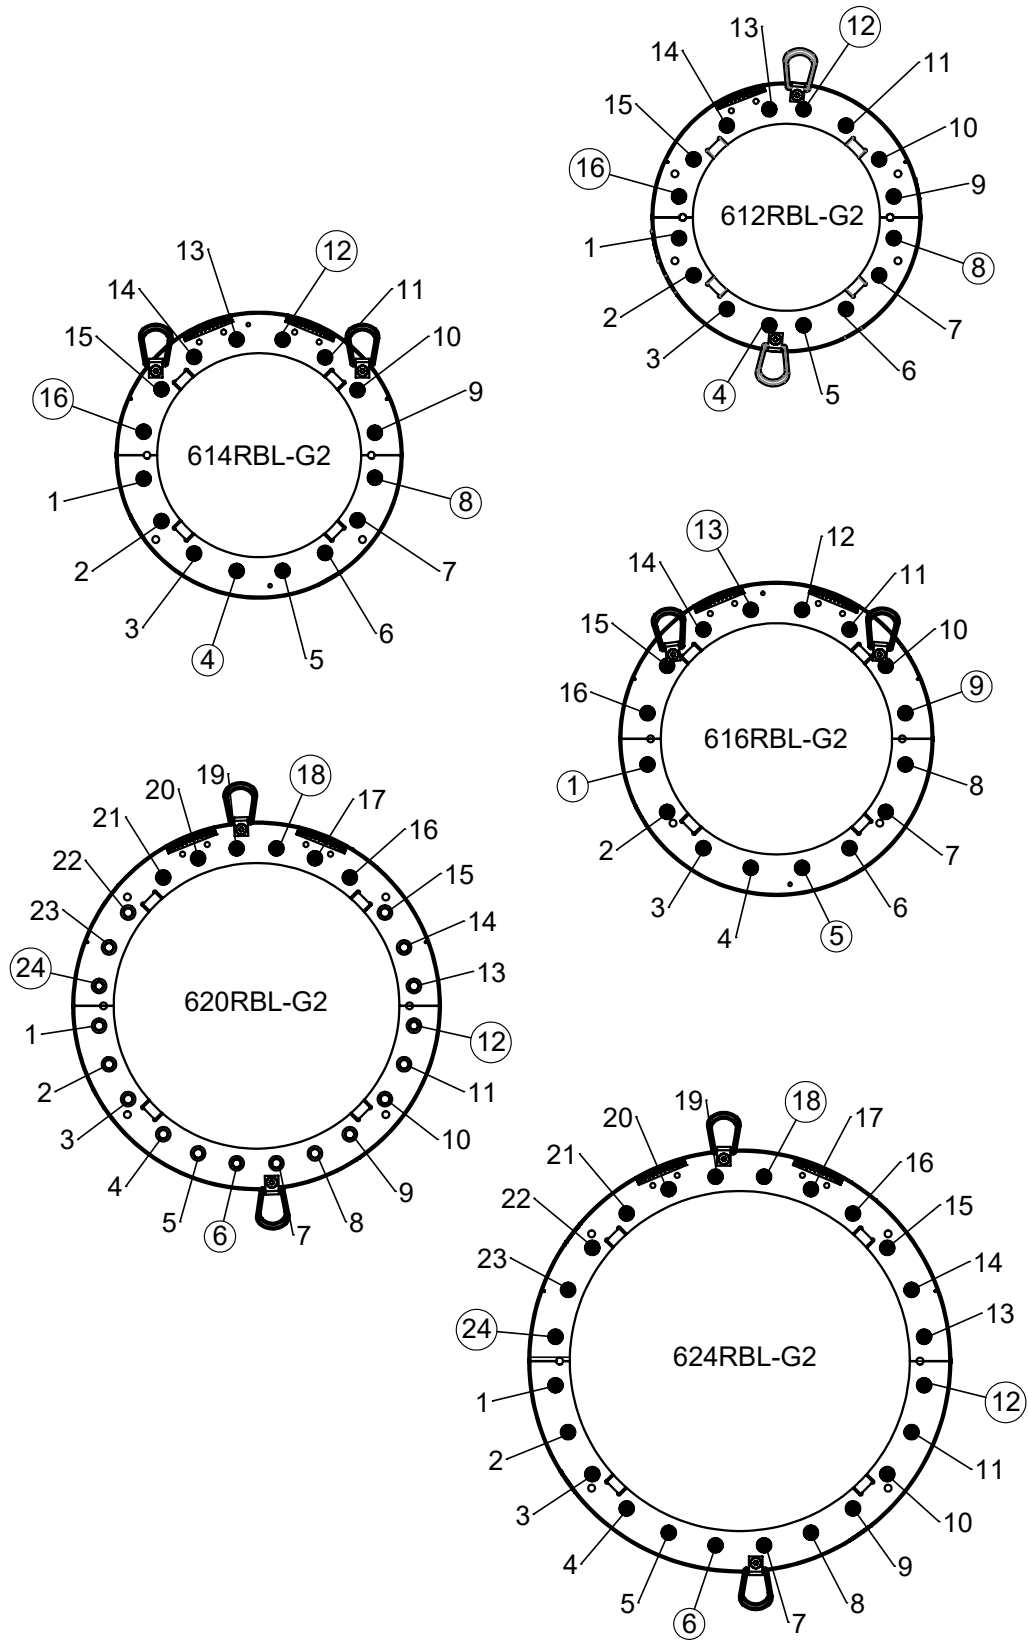

Figure 3: Locations of Eccentric Nuts 612-624 RBL-G2
1. Loosen the Bearing Lock Screws and Adjustment Eccentric Nuts, about 1/4 turn (refer to Fig. 3).
2. Tighten the four (4) Bearing Adjustment Eccentric Nuts until they are tight.
5. Loosen the four (4) Bearing Adjustment Eccentric Nuts and tighten them so the bearings are evenly loaded against the gear race.